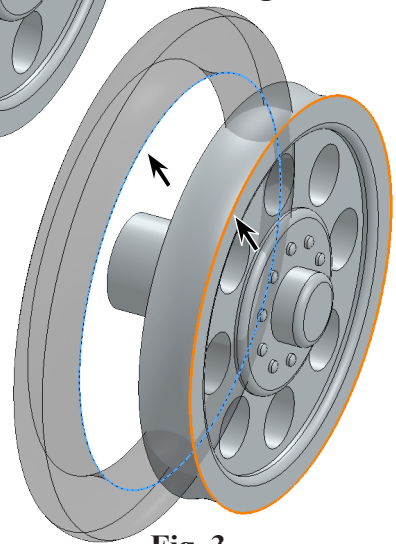

Fig. 3
Step 2. Click **edge of Tire** and **edge of Rim**, **Fig. 3**.